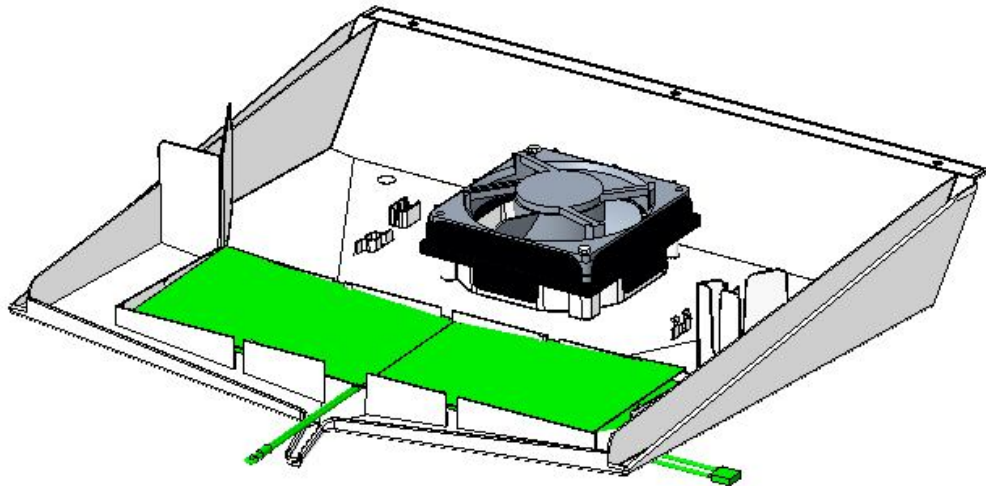

Fig. 9
4. Open dew collector and remove foil heater from foil heater plate as shown in Fig. 9 and remove foil heater from dew collector. (FOIL HEATER 210/410 34.5W)